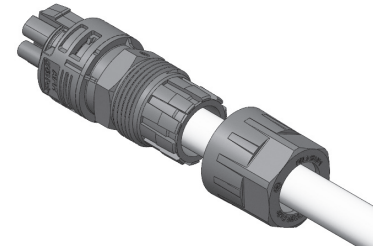

Figure 5
- a. Insert the sealing grommet assembly in the back of the connector and twist to lock. (see figure 5)